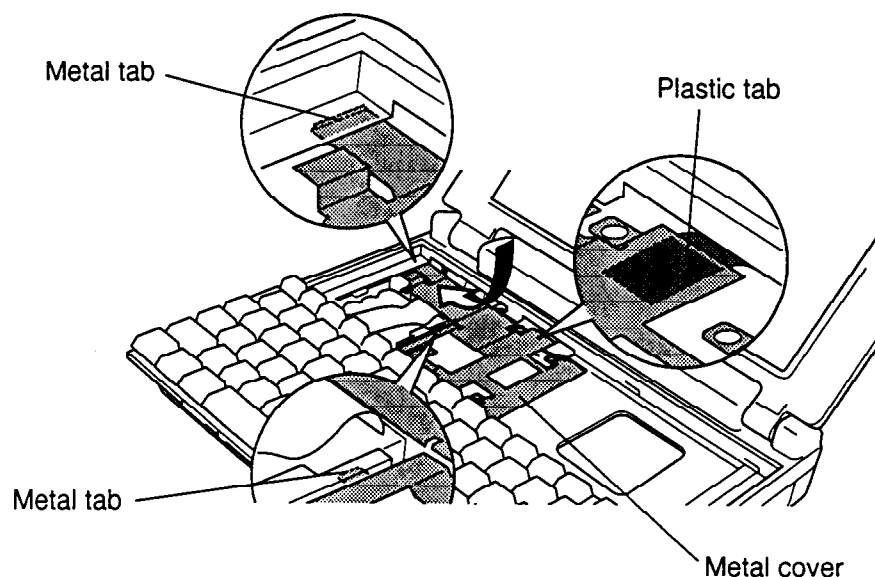

Figure 4-21 Seating the metal cover
To install the keyboard, follow the steps below and refer to Figures 4-21 back to 4-18.
2. Fit the two tabs of the metal cover into the top cover and backup battery base (see Figure 4-21), then seat the **metal cover** and secure it with **three M2.5x6 screws**. Make sure the plastic tab on the LED connector is under the metal cover.